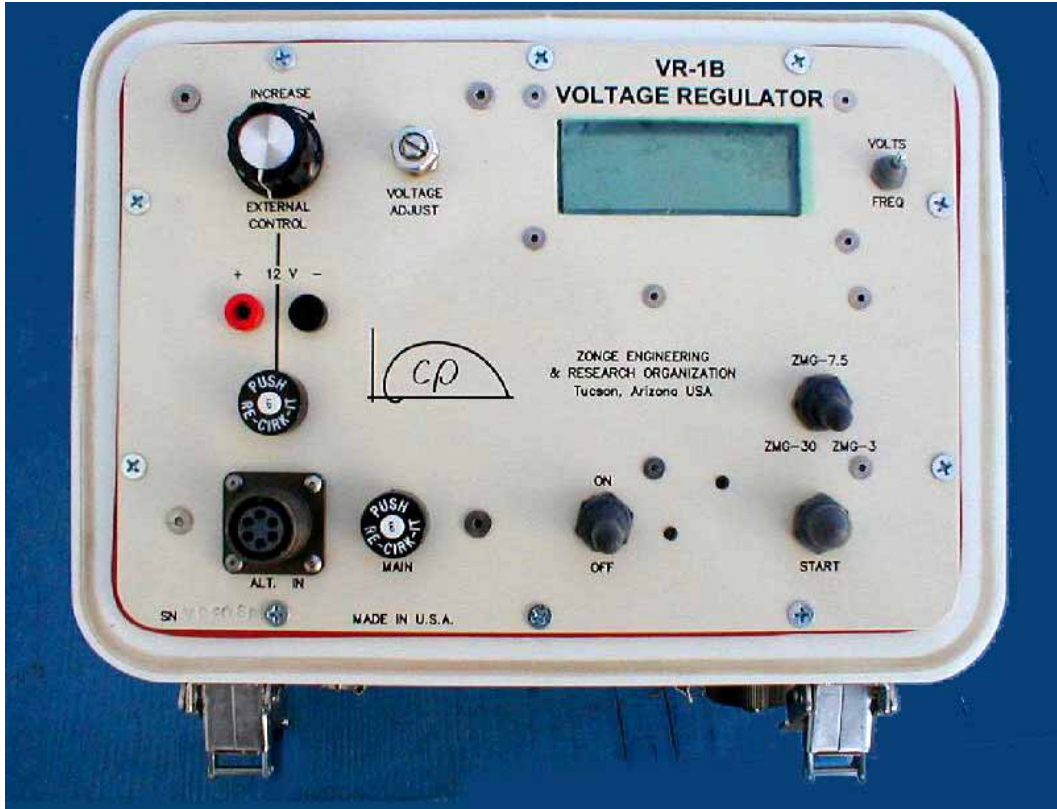

Figure 1 Voltage Regulator VR-1B
- 3.1.1. Check the fuses, or circuit breakers in the VR. These are accessible on the VR front panel (*figure 1*).